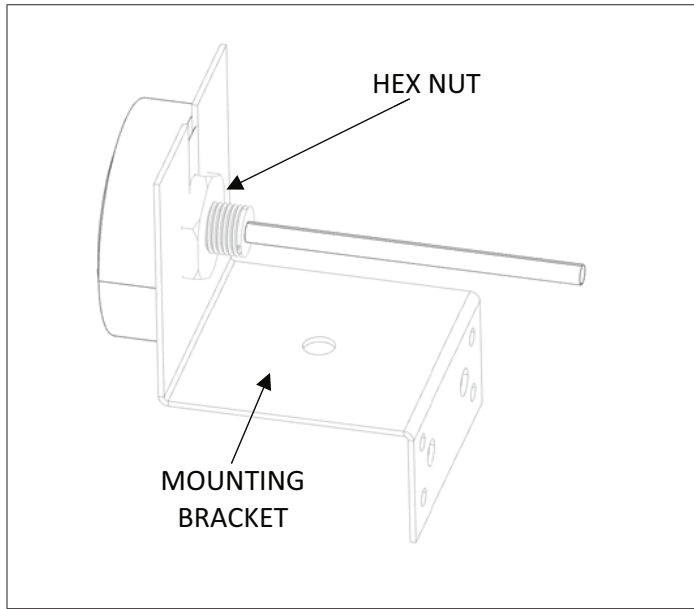

Figure 2. Antenna Mounting Bracket
6. Loosen the hex nut that secures the antenna to the mounting bracket and remove the antenna (see “Figure 2. Antenna Mounting Bracket”).
1. Secure the antenna to the mounting bracket in the same manner as the previous antenna was removed (see “Figure 2. Antenna Mounting Bracket”).